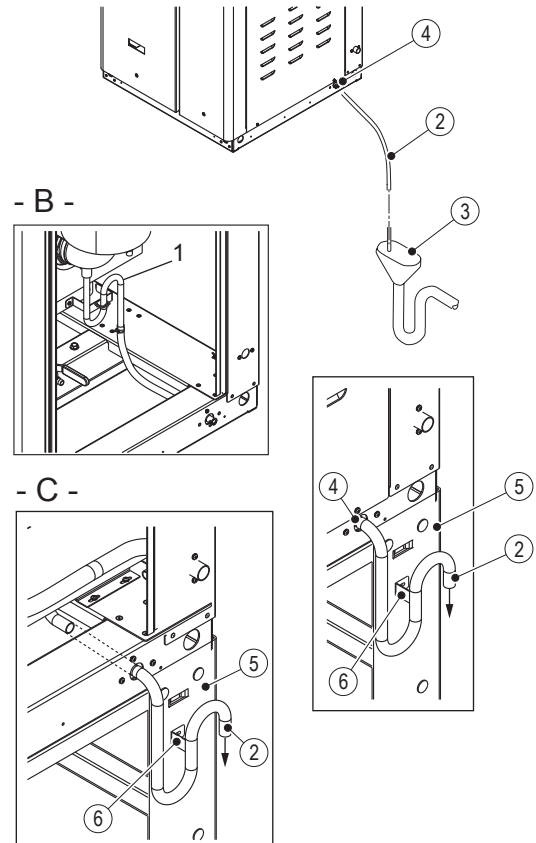

Fig. 13: Exhaust Condensate Drain Line for CS Models (A - GS 23-45, B - GS 65, C - GS 90-260)
The exhaust condensate drain is to be carried out according to Fig. 13 on page 33 and the applicable local plumbing codes.
- Install the condensate drain hose (CS models only), and secure it with a hose clamp – refer to Fig. 13 on page 33. The hose must be rated to 100 °C. Connect the hose to a condensate neutralization device, if required by local code, before connecting the hose to a drain.